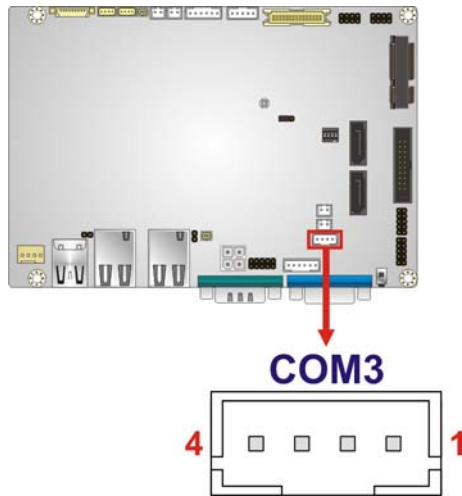

Figure 3-22: RS-422/485 Connector Location
- CN Location: See **Figure 3-22**